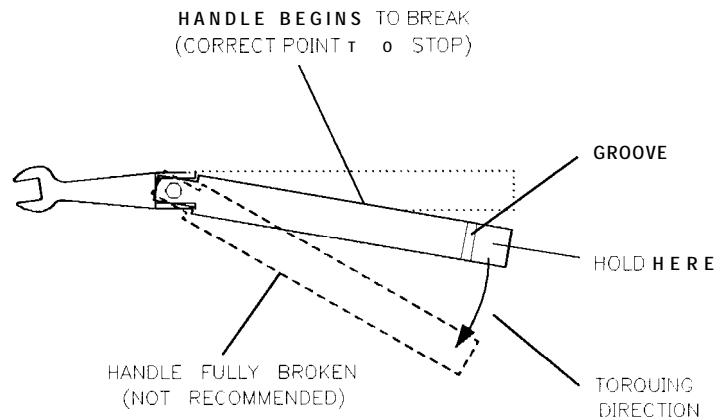

Figure 4-9. Using the Torque Wrench
3. Hold the torque wrench lightly, at the end of the handle only (beyond the groove). (see Figure 4-9).
5. Tighten the connection just to the torque wrench “break” point (see Figure 4-9). Do **not** tighten the connection further.